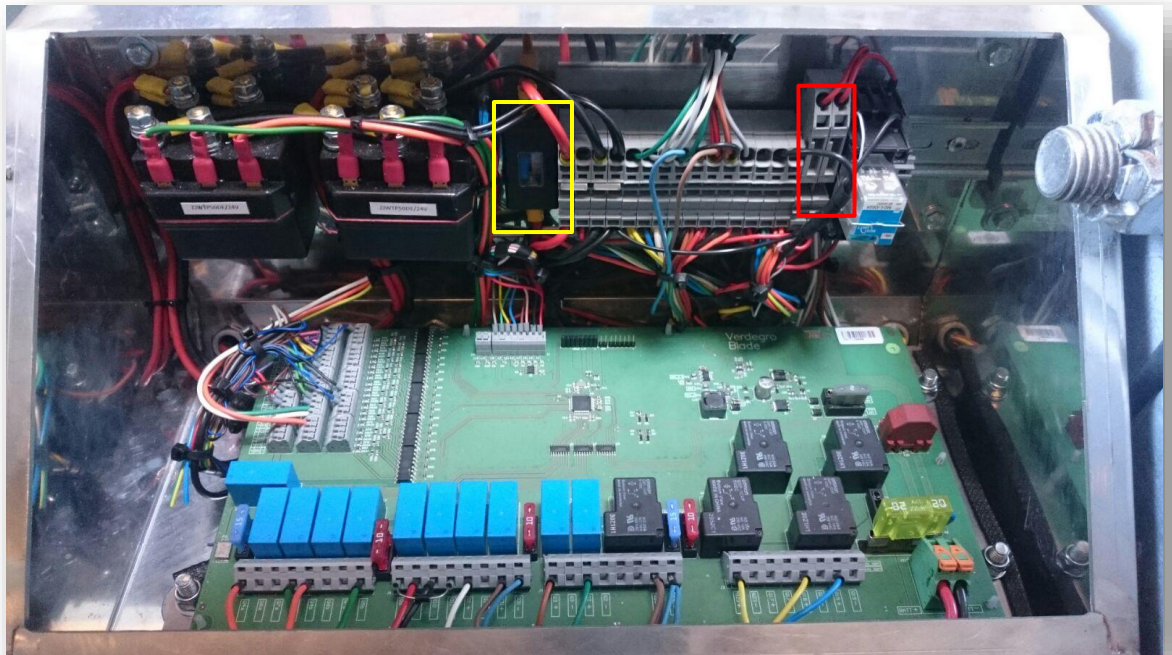

Figure 15
- Fuses for motor control (30Amps Yellow rectangle in figure 15)
- Optional arrow board (20Amps red rectangle in figure 15)
- Extra sign face lights (15Amps red rectangle in figure 15).